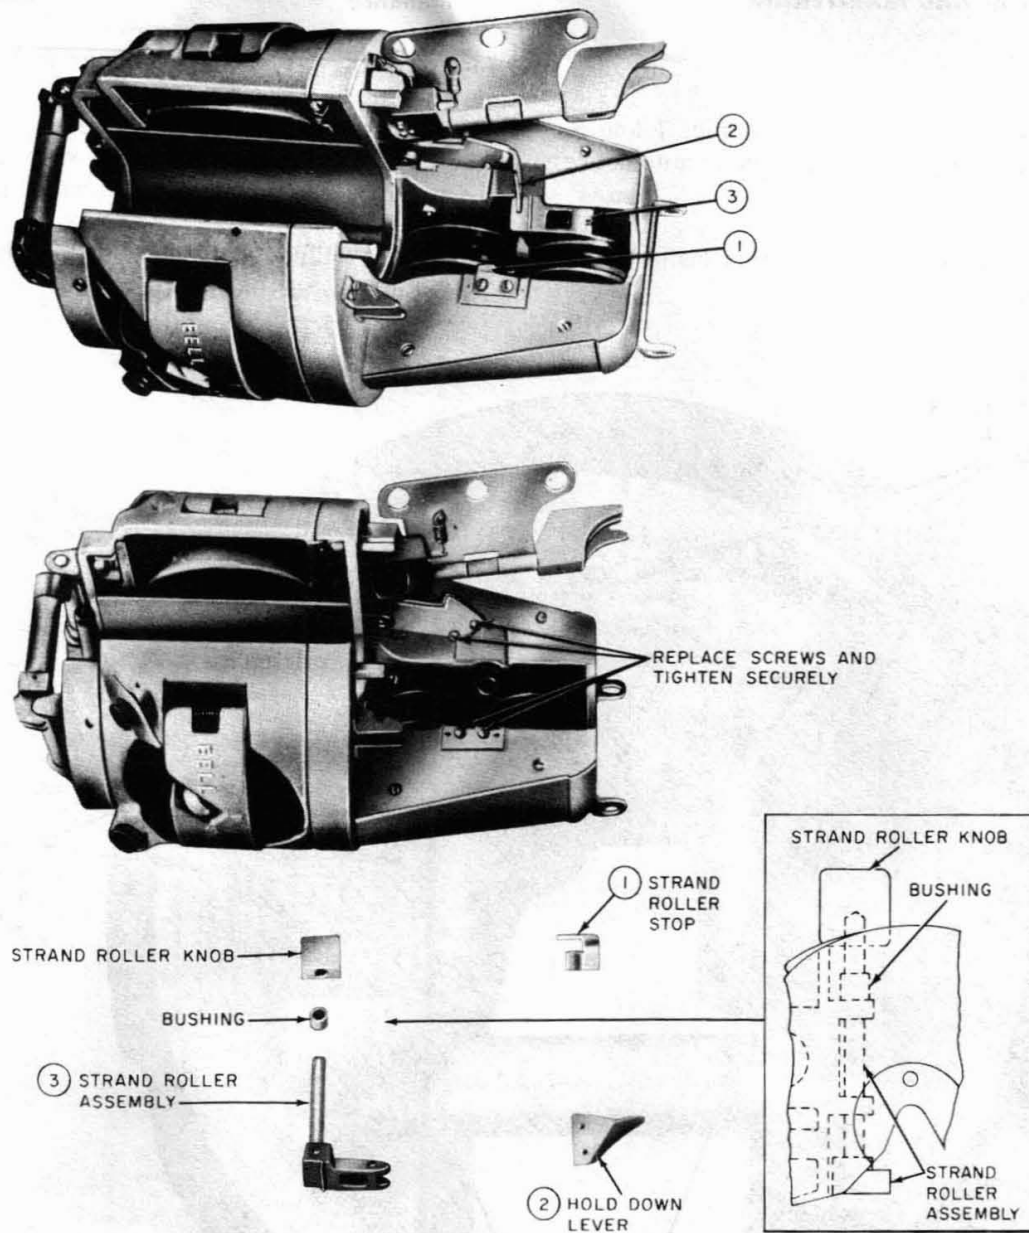

Fig. 6—Parts of J Cable Lasher (MD) to Remove for Lashing to an Existing Cable and Strand
**3.09** The strand tensioning roller assembly of the earlier J lasher (MD) may be removed when lashing cable to an existing cable and strand. These parts should be reinstalled when the lasher is again used for lashing an initial cable to a strand. The removal and reinstallation of these parts, shown in Fig. 6, are covered in Section 627-310-205.